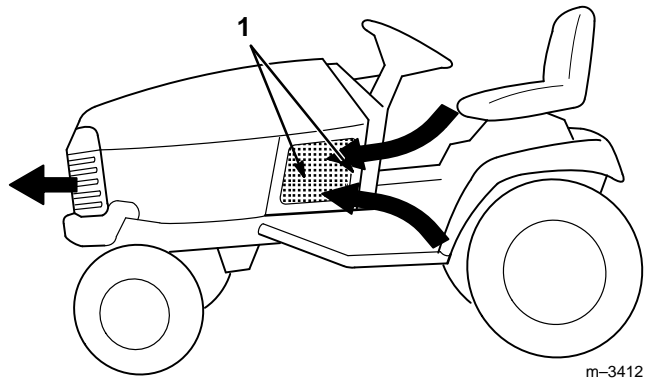

Figure 7
2. Check for debris on the (3) air intake screens (Fig. 7). Wipe away debris before each use and/or during use, if required.